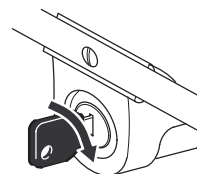

Figure 13
- **Electric Starting** (electric-start model only)—Insert the key into the switch, turn the key to the right, and release it when the engine starts (Fig. 13).